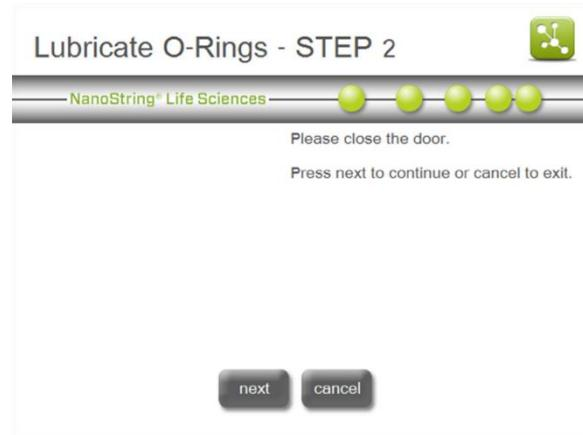

Figure 121: The ‘Lubricate O-rings – STEP 2’ screen.
2. Follow the instructions as directed on the screen (**Figure 121**).